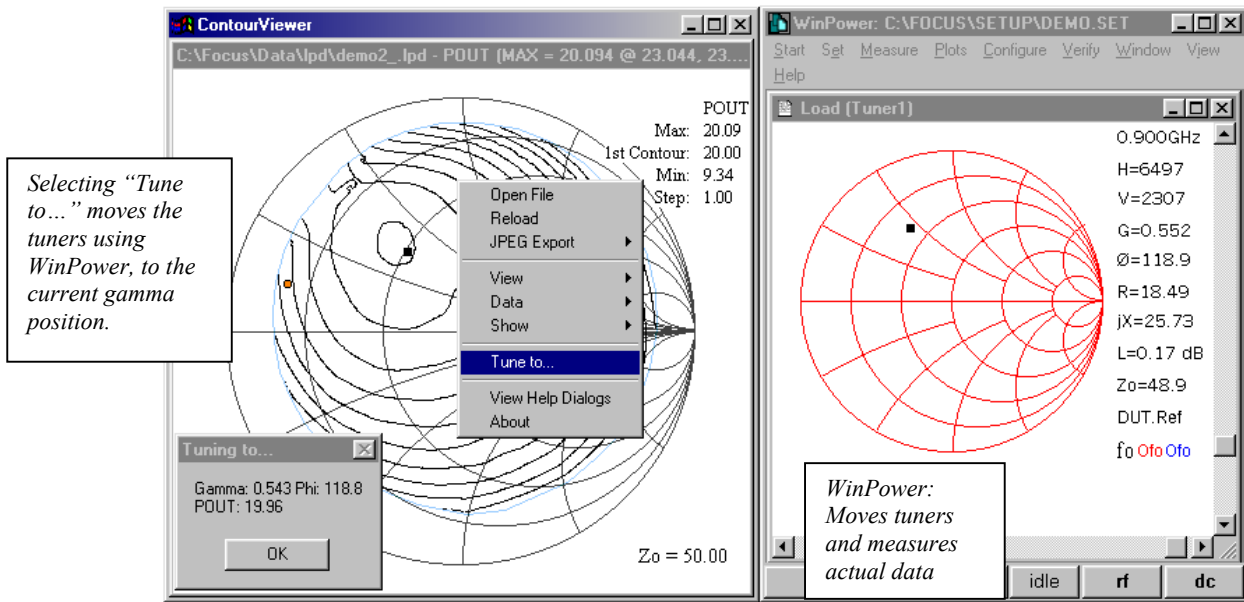

Figure 12: Tuning to a specific Gamma in WinPower using ContourViewer plot
- “Tune-to” impedance within the ContourViewer plot, with Focus Microwaves’ WinPower software (Figure 12).